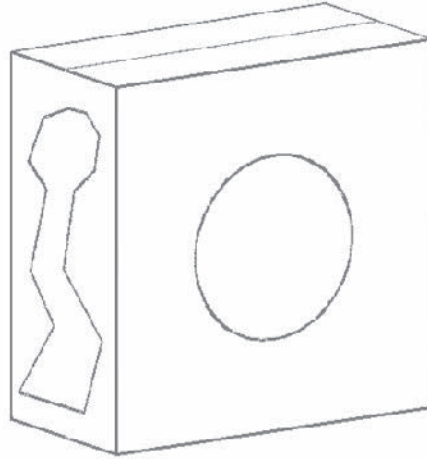

Fig. 45-8
9. On the top face, use the **LINE** command and the **Midpoint** object snap to split the face into two long, equal rectangles, as shown in Fig. 45-8.
10. Rotate the model as shown in Fig. 45-8.
11. On the front face, use a polyline to create a closed 2D profile of arbitrary shape and size, as shown in Fig. 45-8.